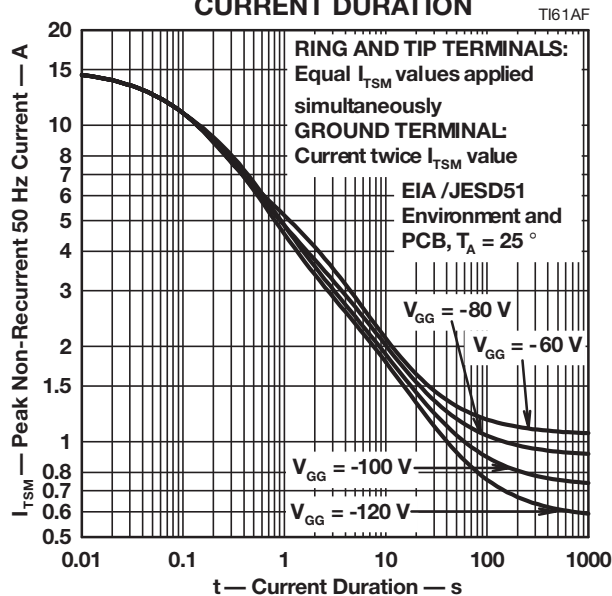

Figure 4
3. Values for $V_{GG} = -120\text{ V}$. For values at other voltages see Figure 4. Above $25\text{ }^{\circ}\text{C}$, derate linearly to zero at $150\text{ }^{\circ}\text{C}$ lead temperature.